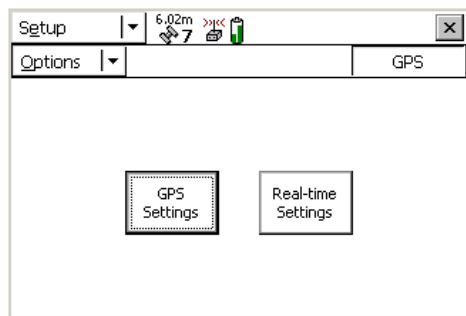

Figure D-5. Setup Options
- 6 Tap **Options** > **Connect to GPS**. When the Allegro emits an audible sound and a satellite icon displays near the *Setup* menu, the GPS receiver has connected to the satellite (Figure D-5).
- 8 Set up fields in the *Setup NMEA Output Settings* window using information in the next table (Table D-1). When you finish, tap **OK**. Tap **OK** again to return to the *Setup Options* window (Figure D-5).
- 10 Set up fields in the *Setup Real-time Settings* window using information in the next table (Table D-2). When you finish, tap **OK** to return to the *Setup Options* window (Figure D-5).